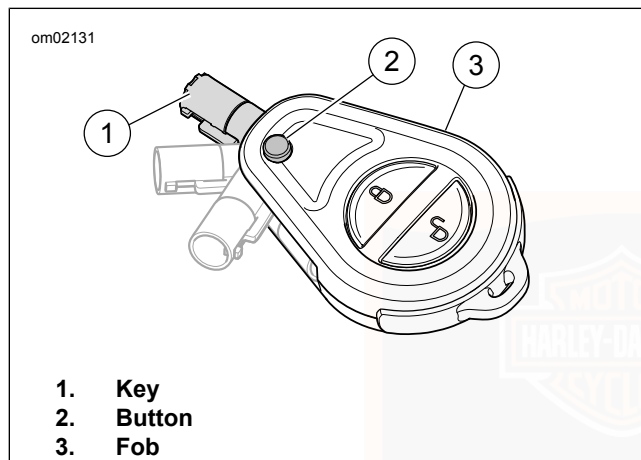

Figure 4. Key Operation
Extend key: See Figure 4. Press the button (2) to extend the key.